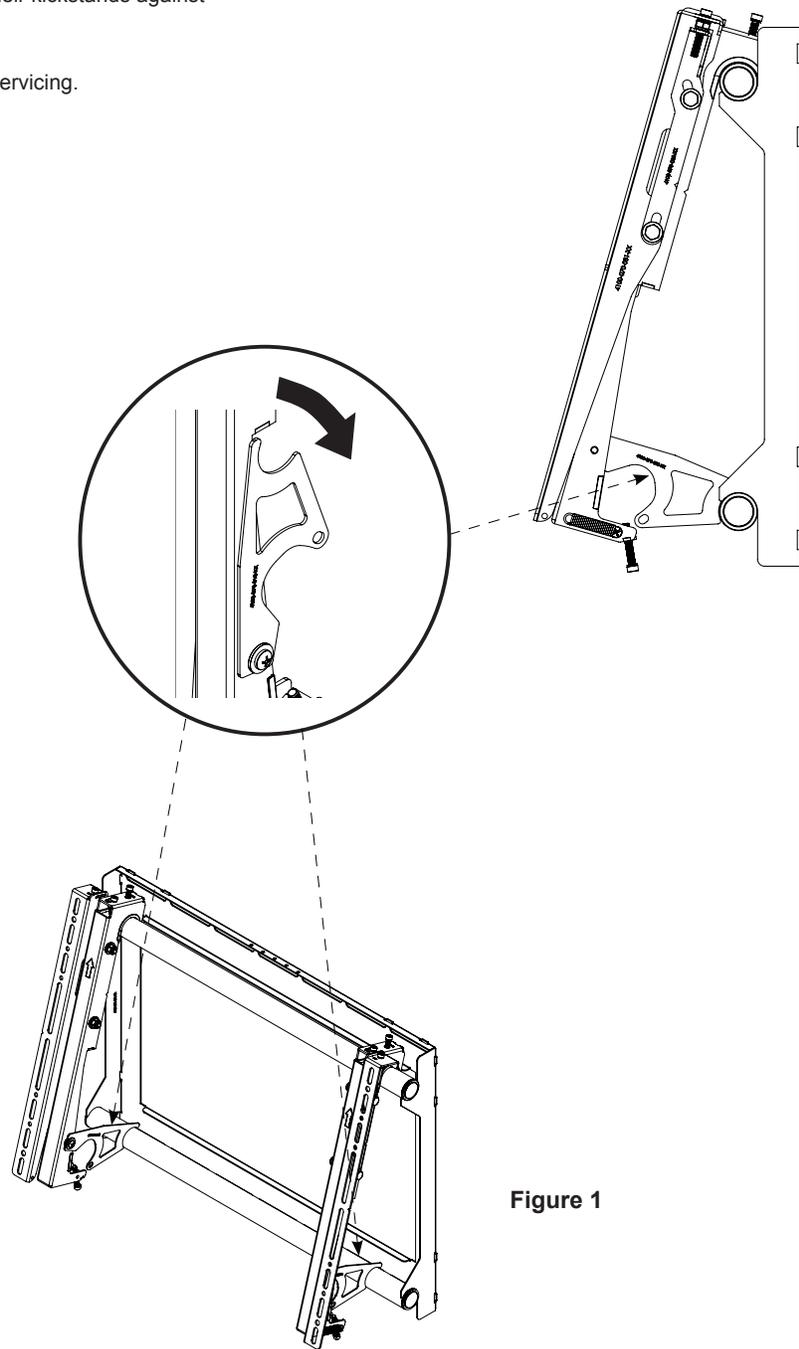

Figure 1
- 2) Tilt up the bottom of the flat-panel, then set their kickstands against the bottom tubing of the mount (Figure 1).